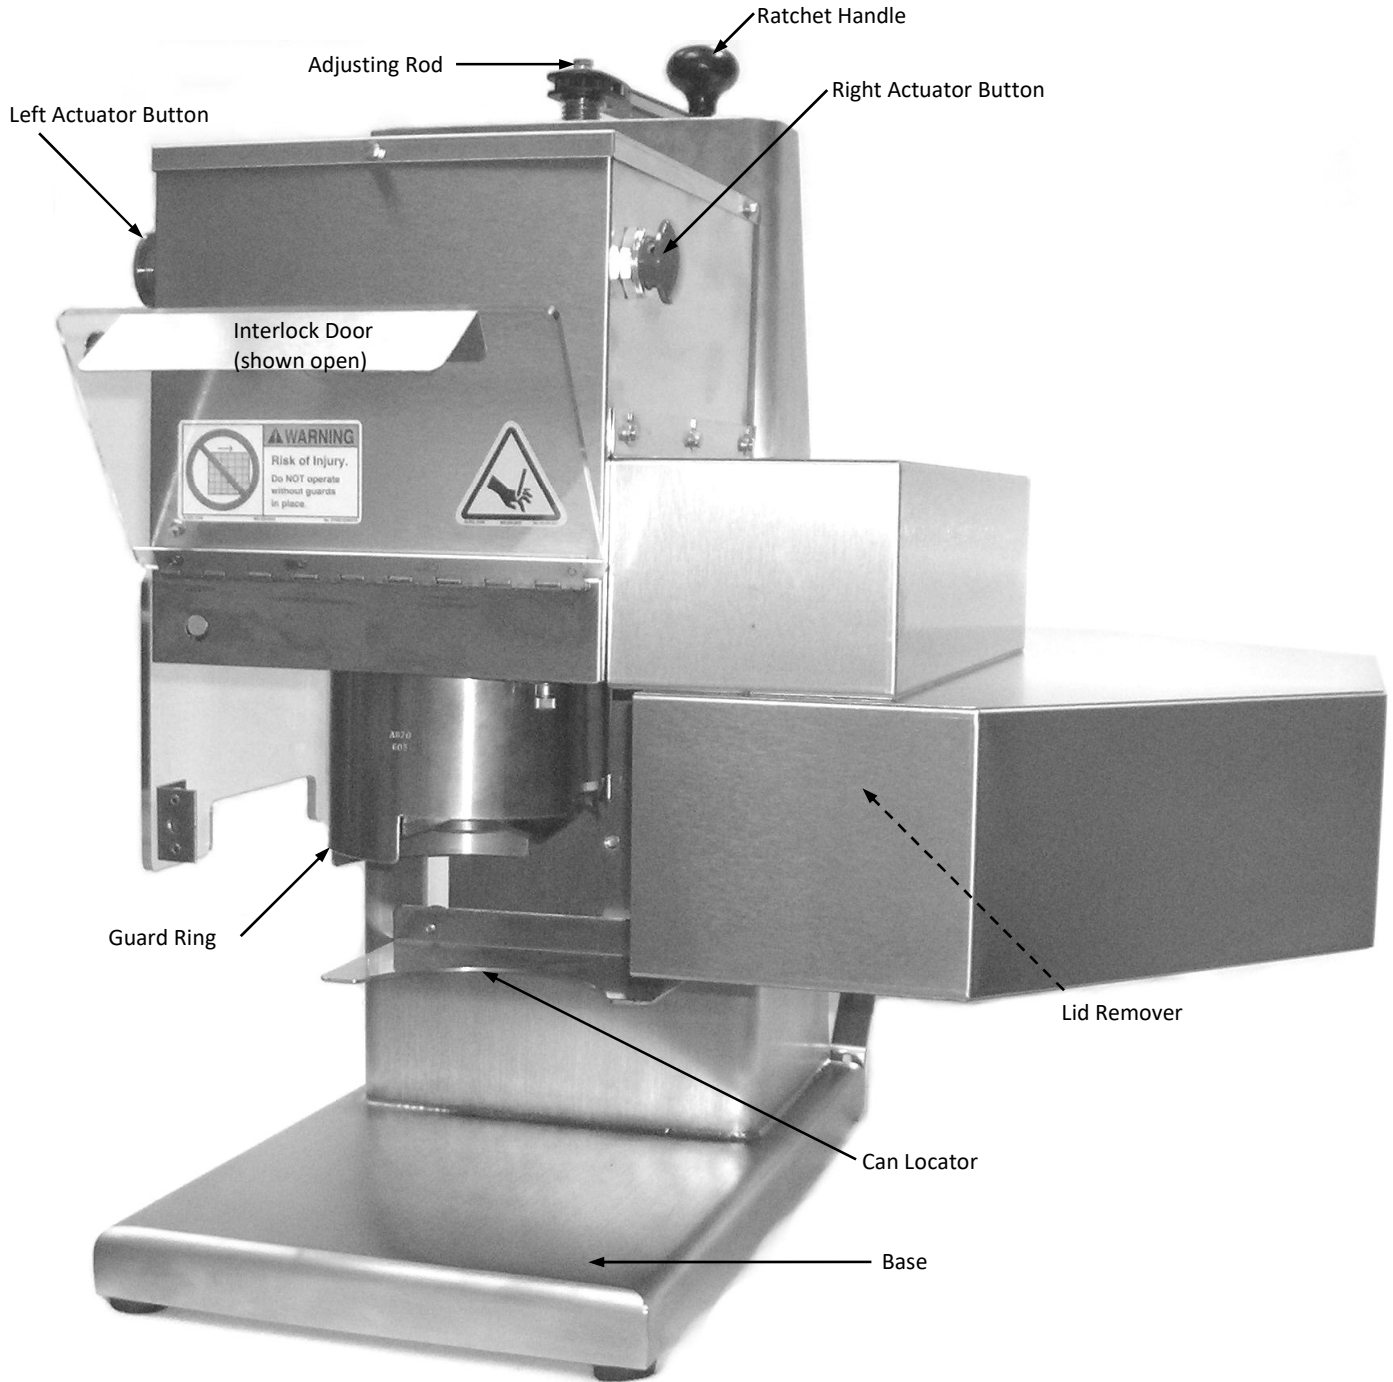

Figure 1
2. Place the can you are opening on the Base against the Can Locator and Knife Guard Tab (Figure 1). This will align the can with the Knife Guard at the top of the Opener (Figure 1).
3. Press both of the green Actuator Buttons (Figure 1) on sides of the Opener head at the same time. Hold the Buttons in until the can opens and the Lid Remover grabs the lid, and then release both Buttons. The Crown Punch will retract to its starting position and the Lid will be dropped at the rear of the opener.
NOTE: The model shown in Figure 1 may look slightly different from your machine.
2. Open the Interlock Door (Figure 1 on page 7).